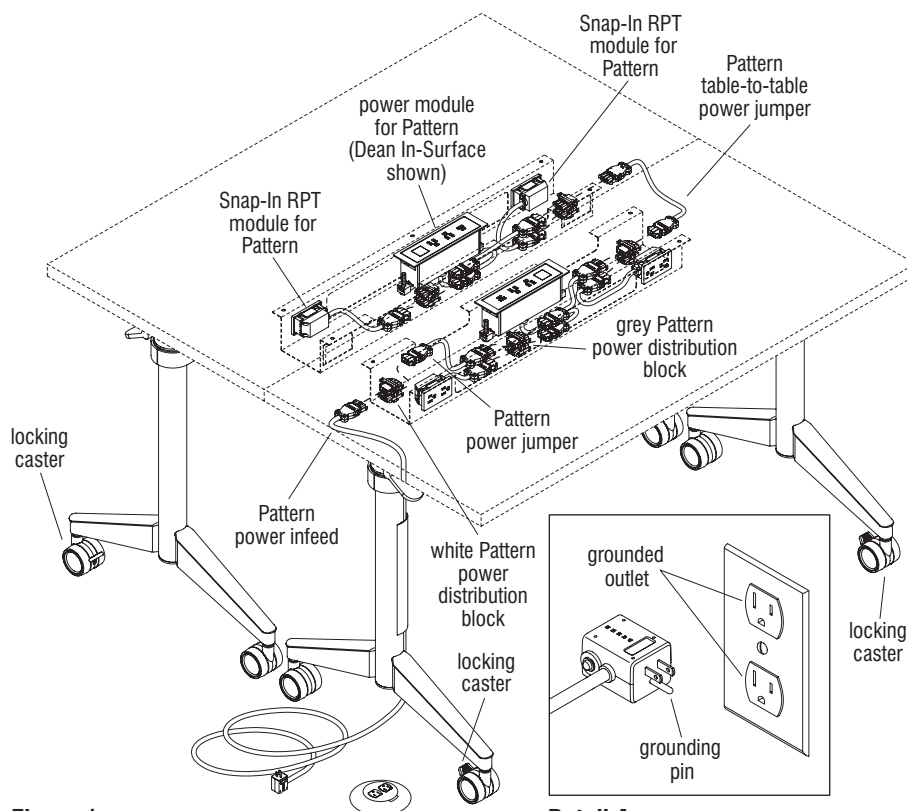

Figure 1
1. Place tables at their final location and lock the two front, user side casters in place on each table. Snap the Pattern table-to-table jumper ends into each table's Pattern distribution block (Figure 1).